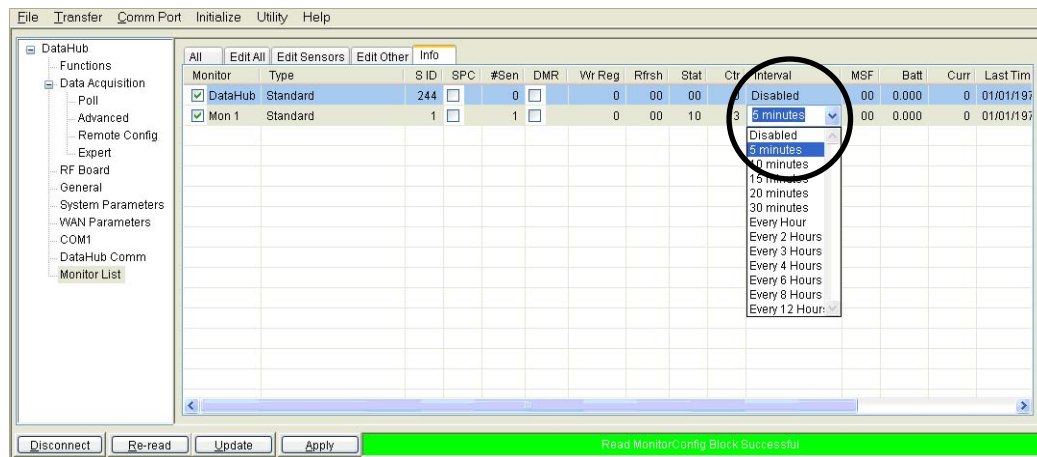

Fig. 7.9: Set Polling Interval
7.19 Change **Interval** number to desired polling interval level (i.e. **5 minutes**). Fig 7.9